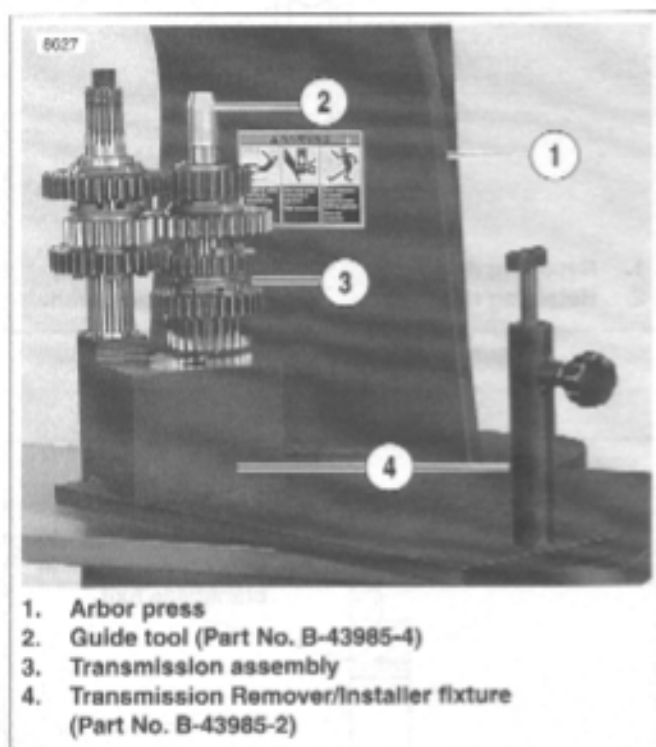

Figure 6-75. Transmission Assembly in Fixture
1. See Figure 6-75. Place transmission assembly onto TRANSMISSION REMOVER/INSTALLER FIXTURE (Part No. B-43985-2) on arbor press.